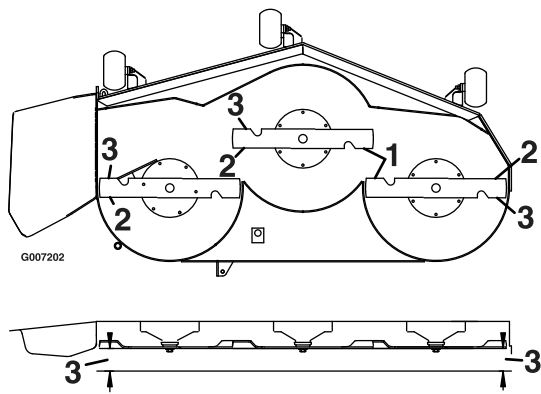

Figure 57
5. Measure between the outside cutting edges and the flat surface (Figure 57).